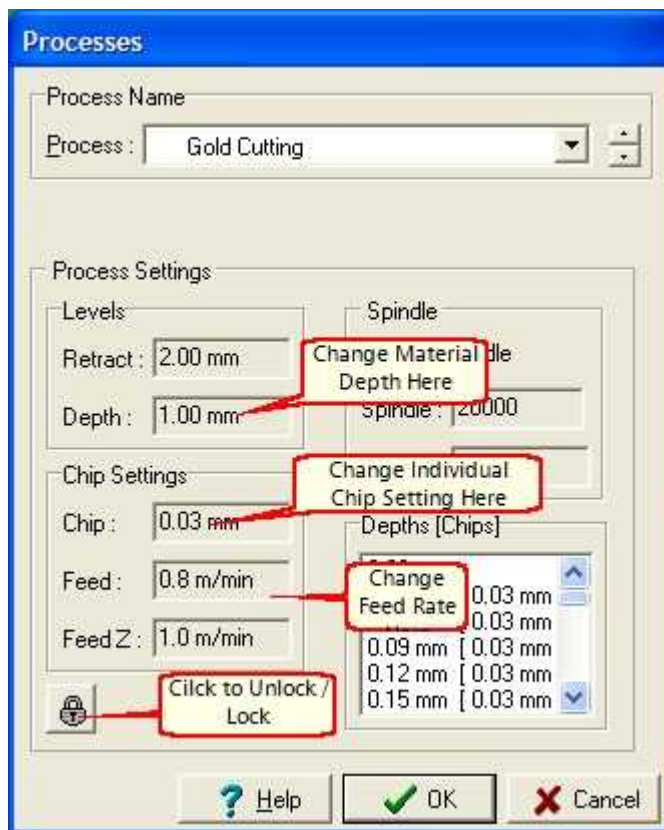

Figure 1
- 4 In your U-MARQ Engraving Software the processes that are preset are for guidance only and are not suitable for all types of material. Because of the huge amounts of material types that are available, the only way to ensure perfect results every time in by trial and error, see Figure 1.